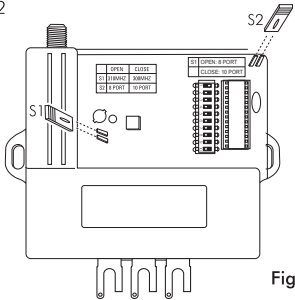

Fig. 2
Step 2. You can now see the jumper and dip switches. See Fig. 2
Step 4. Determine the operating frequency you will use on your installation. The Transmitter Solutions Hive receiver can operate at either 300 MHz or 310 MHz. At 300 MHz the hive receiver is compatible with all MultiCode transmitters with 10 dip switches operating at 300 MHz. At 310 MHz the Hive receiver is compatible with all Linear transmitters with 8 dip switches and Stanley transmitters with 10 dip switches operating at 310 MHz. See Fig. 2.